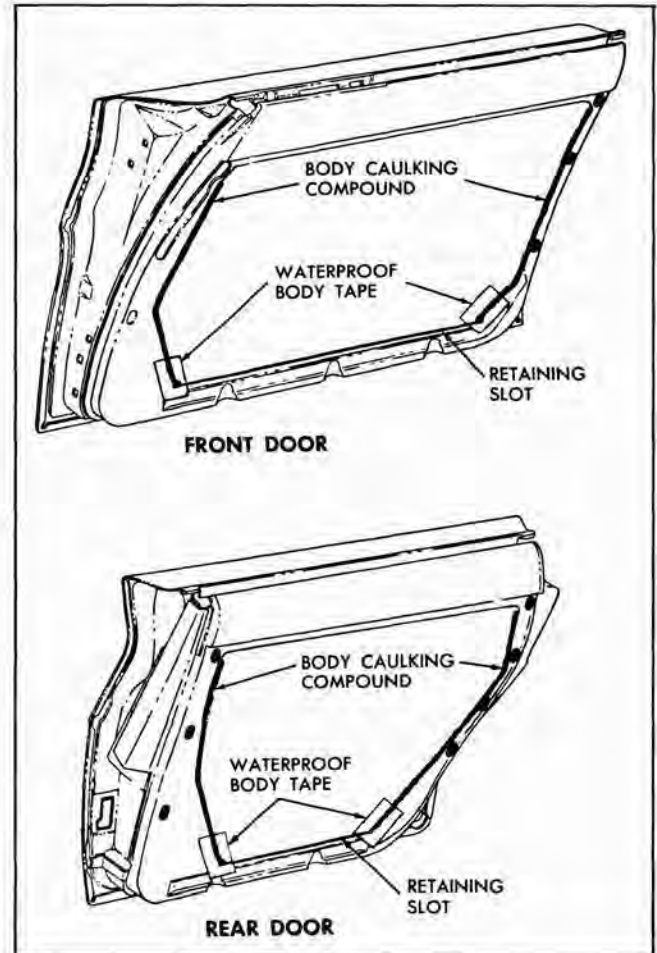

Fig. 13-4 Water Deflector Installation
2. Remove strips of waterproof body tape securing lower corners of water deflector (Fig. 13-4).
If old sealer does not effect a satisfactory seal, apply a bead of body caulking compound (approximately 3/16" diameter) to inner panel at unsealed areas (Fig. 13-4).
4. Seal lower corners of deflector with 2" or 2-1/2" waterproof body sealing tape (Fig. 13-4).